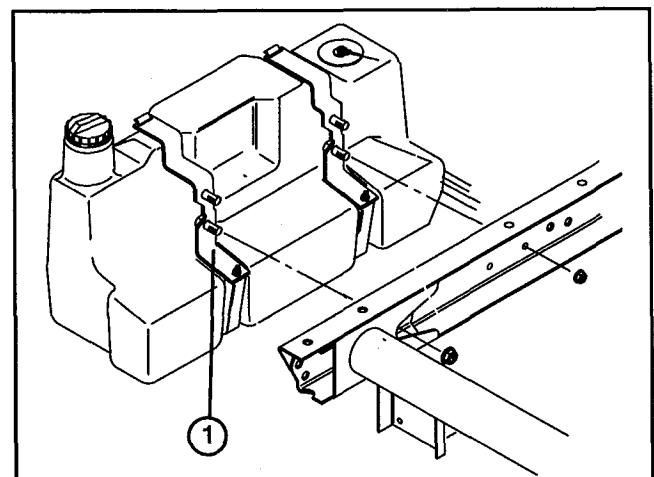

Figure 8
39. Remove (4) capscrews and flange nuts securing fuel tank supports to right frame rail (Fig. 8). Remove and support fuel tank.